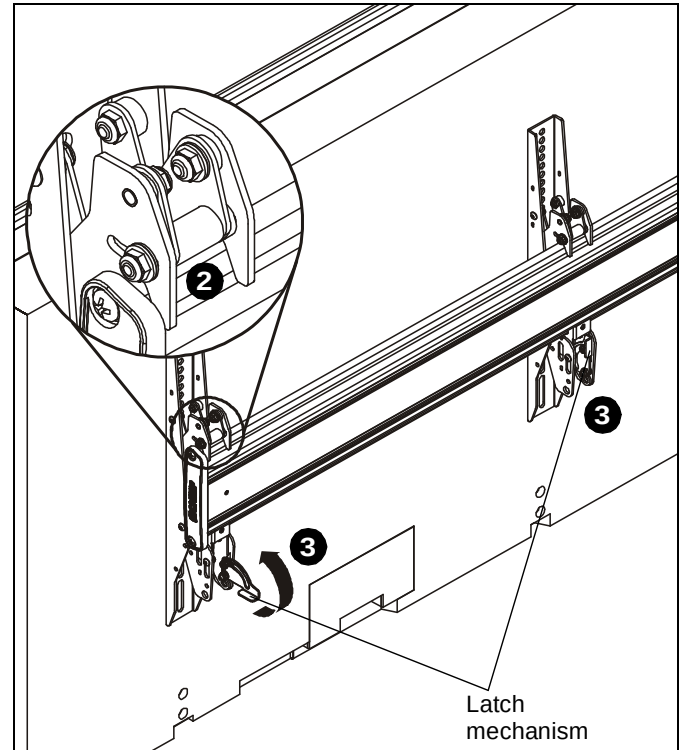

Figure 9
- While supporting both sides of display, lower display onto one side of ceiling mount, hooking top of interface brackets onto front of ceiling mount. (See Figure 9)
- Raise the latch mechanism on both interface brackets to lock bracket in place. (See Figure 9)
- While supporting both sides of second display, lower second display onto other end of ceiling mount, hooking top of interface brackets onto front of ceiling mount. (See Figure 9)